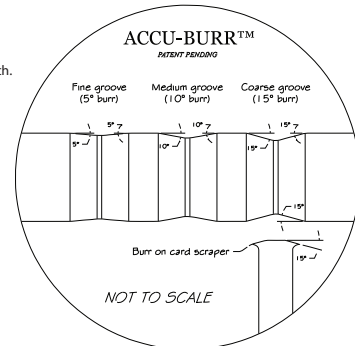

Fig 1 Close-up of the Accu-Burr™ grooves, showing simultaneous formation of a burr on both sides of the scraper.
**Accu-Burr™ Jr - one burnisher, any scraper.** Meticulously designed in every detail to be the most versatile burnisher ever, the Accu-Burr™ Jr is the first and only burnisher you need at your bench. The heart of the Accu-Burr™ Jr is a 3/16" diameter carbide rod with three v-shaped grooves, precision ground to turn a fine, medium, or coarse (5°, 10°, or 15°, respectively) burr simultaneously on both sides of any prepared scraper edge (Fig. 1). Paired with attractive brass handles permanently affixed to the carbide rod, the Accu-Burr™ Jr turns consistent and accurate burrs on scrapers of nearly any shape, thickness, or hardness.